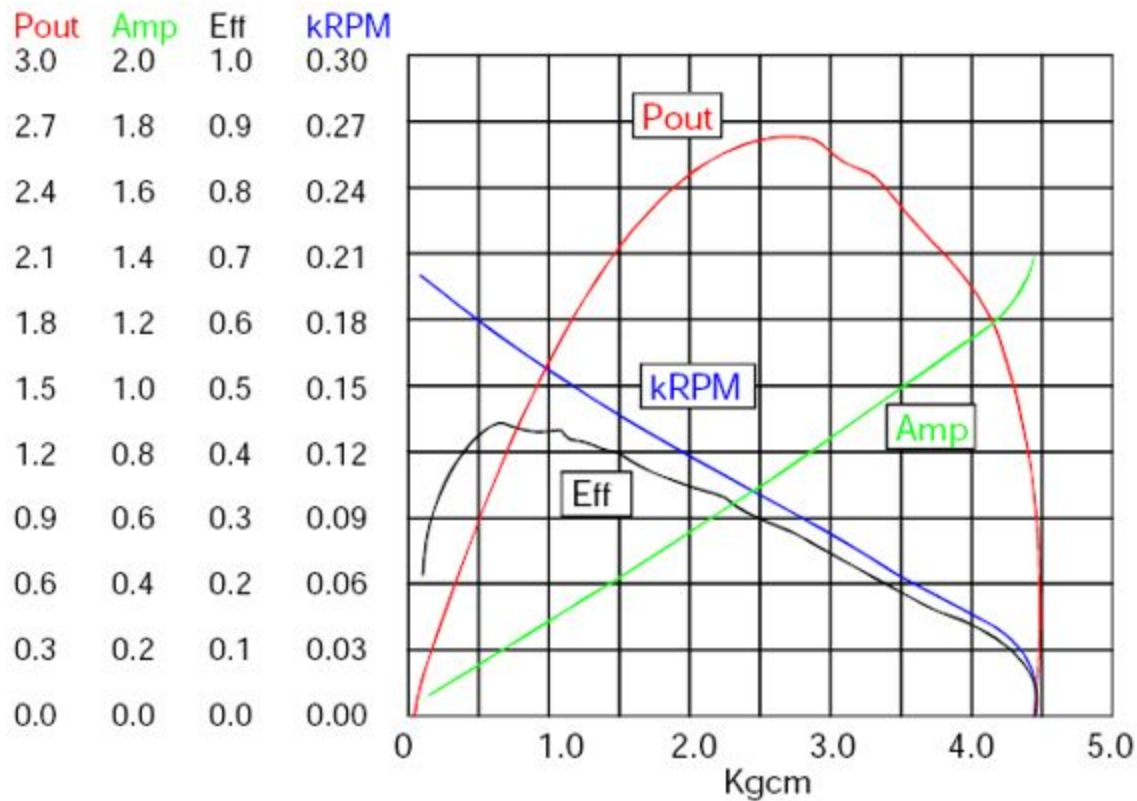

Fig. 1 Motor Characterization curves
1) This lab will use Lynxmotion GHM-01 gear head DC motors. The characterization data of the gearbox output is specified with the below curves (Fig. 1) (e. the figures include the gear box).